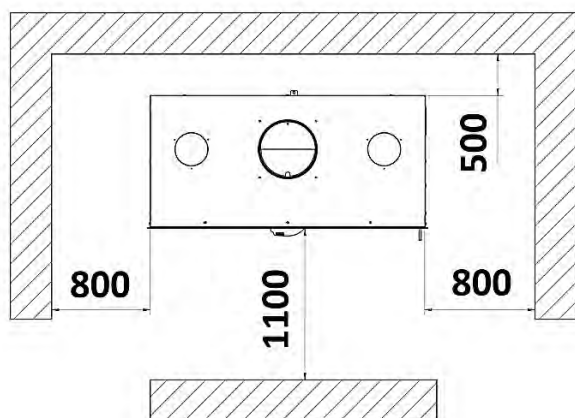

FIG. 8
- Keep any flammable material (furniture, curtains, clothes...) away from the fireplace, at a safe distance of at least 0,90m. (Fig. 8)